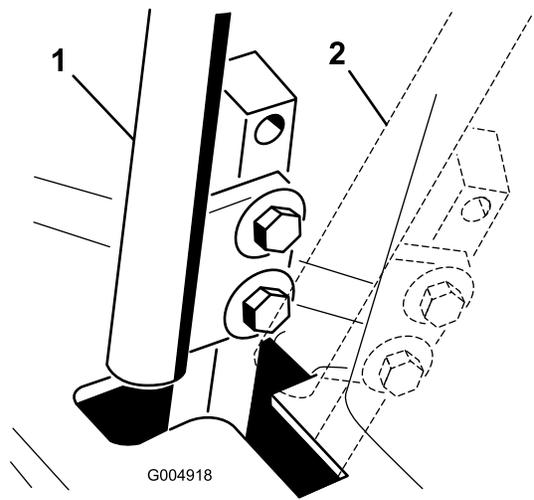

Figure 86
4. Move the control lever to the NEUTRAL position but **not locked** (Figure 86).
6. Check where the control lever is relative to notch in the console (Figure 86).